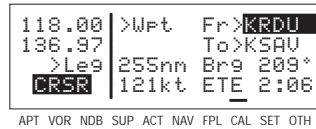

Figure 3-35
2. If required, rotate the right outer knob to position the cursor (figure 3-35).